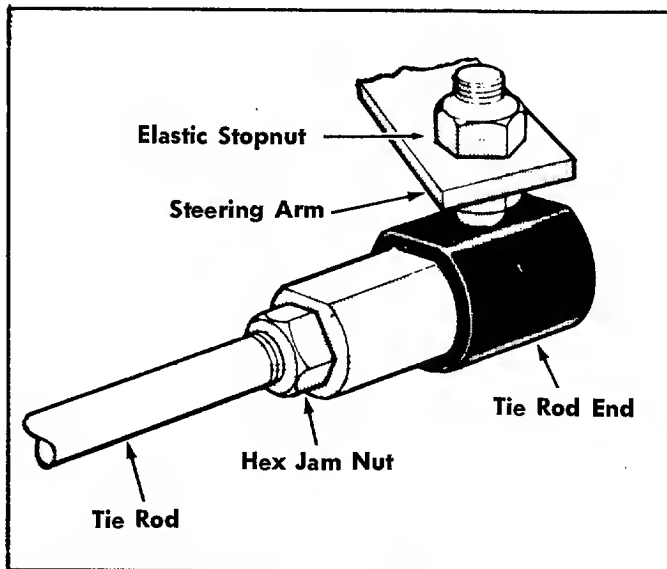

FIGURE 19. TIE ROD ADJUSTMENT
- Step 1. Loosen the hex jam nut on one side. See figure 19.